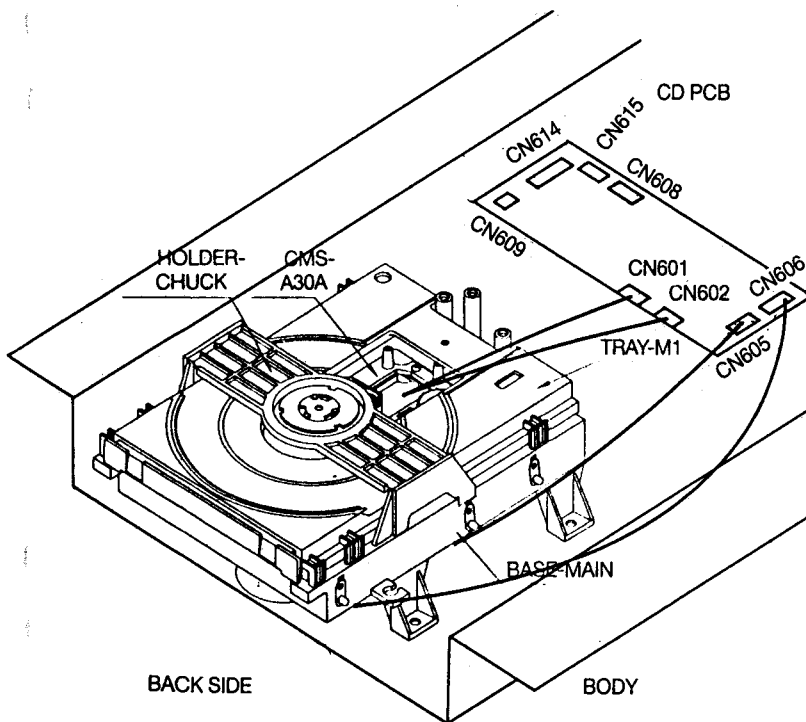

Fig. 1
1) Disconnect the four connectors carefully (These are on the CD PCB. fig 1. CN601, CN602, CN605, CN606).